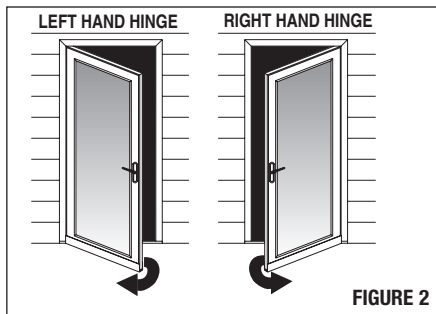

FIGURE 2
1. Looking at your door opening from the outside, determine which side you want the hinge on. **See Figure 2**